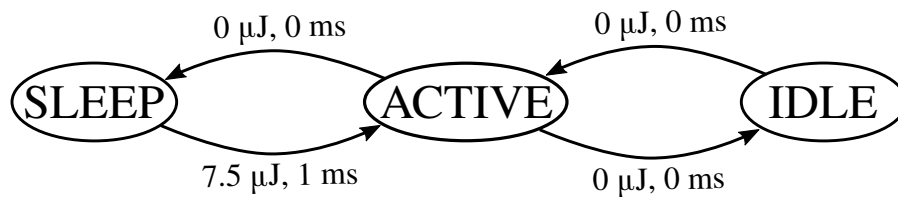
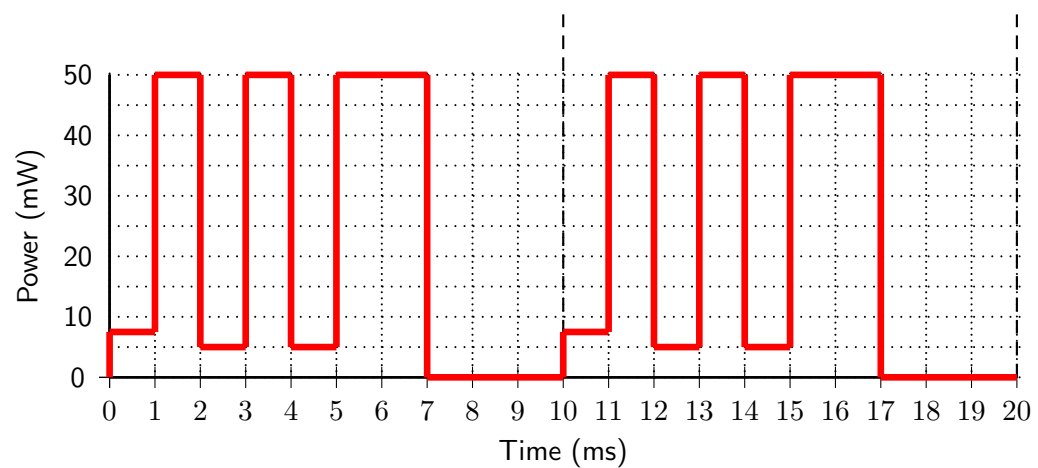

Figure 9: System modes and allowed transitions.
Figure 10: Power dissipation using an energy-minimizing workload-conserving scheduler
- (b) (6 points) Now assume that there is a third mode called SLEEP, with $P_{\text{sleep}} = 0$ mW. The system modes and allowed transitions, along with their energy and time overheads, are shown in Figure 9. Power dissipation during a mode transition is **constant**. A transition to ACTIVE mode occurs when there is at least one task in the ready queue. Plot the power dissipation during two periods for an **energy-minimizing, workload-conserving** schedule using Figure 10. The processor is in SLEEP mode at time 0. What is the average power P_{avg} between time 0 ms and 20 ms?